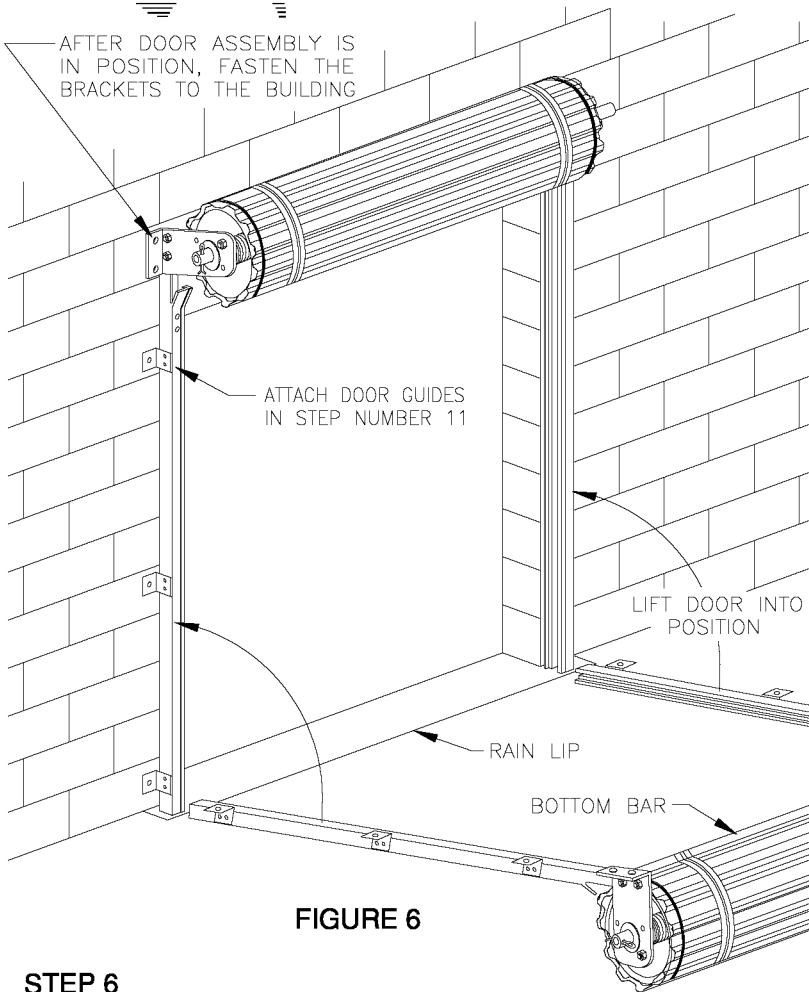

FIGURE 6
PLACE BOTTOM OF GUIDES AGAINST THE WALL AT DOOR JAMB (DOOR CENTERED IN OPENING), LIFT BOTH ENDS OF DOOR EVENLY AND WALK INTO POSITION AT DOOR HEADER. WHILE ONE INSTALLER HOLDS DOOR IN PLACE, THE SECOND INSTALLER SHOULD VERIFY THAT DOOR IS CENTERED IN OPENING AND CHECK PLUMB OF GUIDES. IF DOOR IS NOT CENTERED IN OPENING, DOOR CAN BE EASILY MOVED LEFT OR RIGHT. ALLOW 3/8" CLEARANCE FROM CURTAIN ROLL END AND INSIDE OF VERTICAL GUIDE RAILS. BOLT HEAD BRACKET AND GUIDE TO BUILDING AT DOOR BRACKET ONLY. DOOR BRACKETS SHOULD NOW SUPPORT DOOR (SEE FIGURE 6 ABOVE). NOTE: EACH BRACKET REQUIRES (2) FASTENERS TO ATTACH IT TO JAMB.